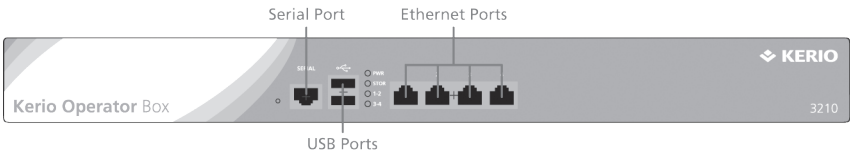

Figure 2 Kerio Operator Box 3210
- Kerio Operator 3000 Series — 1U rack mountable appliance (see figure 2).